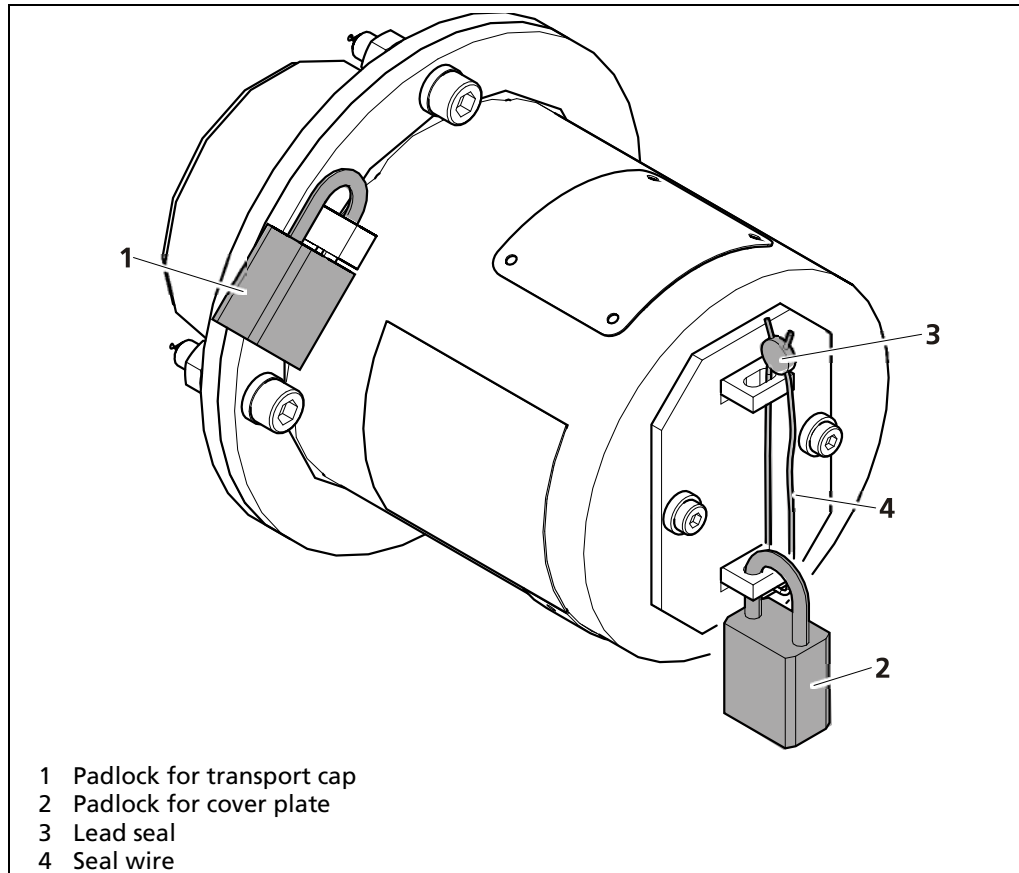

Fig. 4 Checking the delivery
2. Check both padlocks (Fig. 4, item 1, item 2) are installed, closed and undamaged.
3. Check the integrity of the lead seal and the seal wire (Fig. 4, item 3, item 4).